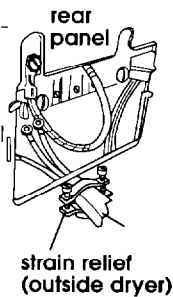

Figure 20
4. Attach 3/4" U.L.-listed strain relief (U.L. marking on strain relief) to the hole below terminal block opening (see Figure 20). Tighten strain relief firmly to cabinet so it is in a horizontal position. Place direct wire cable through strain relief.